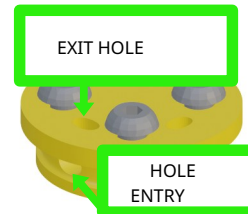

Figure 5.64:
2. Insert the end into the top right hole of the spooler and let it exit from the corresponding exit hole (figure 5.64), make sure that the amount of tendon coming out of the hole is long enough to prevent it from slipping out again.